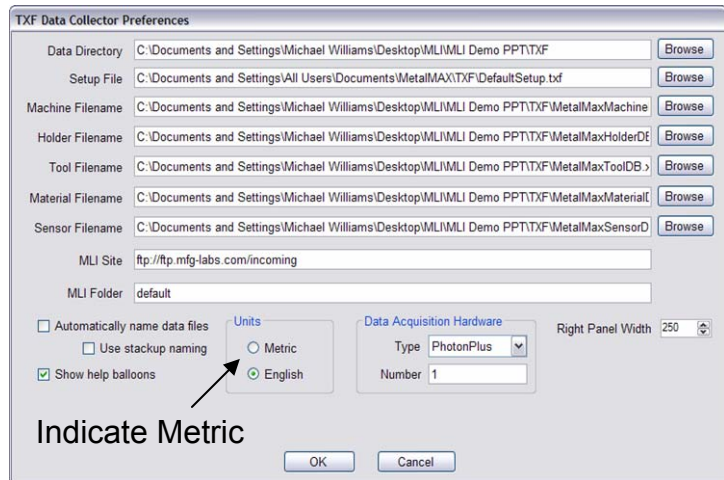

Figure 63: Preferences Menu
Step 3: Start TXF and press F12 or select from the pull down menu “Preferences”. The screen shown in Figure 63 will appear. Please insure that “Metric” units are selected.